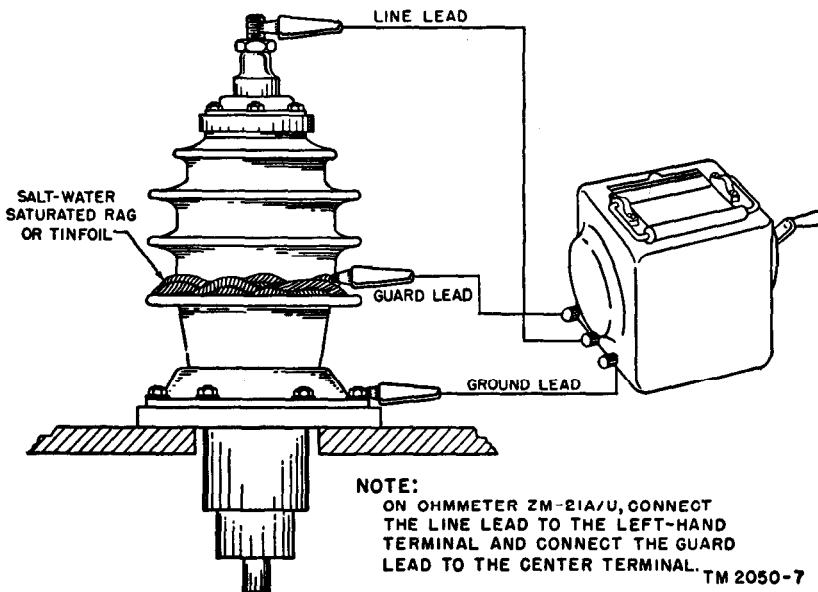

Figure 11. Connection for testing insulating bushings.
a. To obtain a true resistance value of the insulation under test, both the insulation and the measuring instrument must be protected against surface leakage to eliminate possible errors. Both Test Set I-48-B and Ohmmeter, ZM-21A/U have an internal protective or guard system for this purpose. The guard system is connected to the GUARD terminal so that protection against surface leakage can be extended to the insulation under test. For example, figure 11 shows a porcelain insulator bushing under test with the guard connection of the ohmmeter in use. Any leakage current between the base of the insulator and its terminal will be carried back to the test set through the GUARD terminal, and the internal guard circuit of the test set will prevent this leakage from entering the measuring circuit.
a. Connect a test lead from the GROUND terminal of the ohmmeter to the base of the bushing (fig. 11).